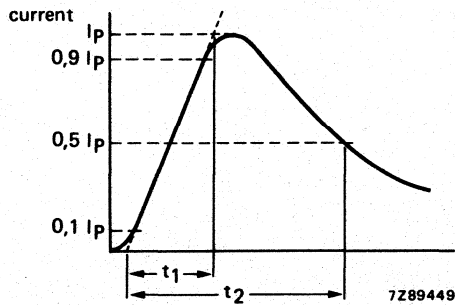

Fig. 5.
- High energy surges are generally of longer duration. The max. energy for 1 impulse 10/1000  $\mu\text{s}$  is given as a reference for long duration impulses. This impulse can be characterized by peak current  $I_p$  and impulse width  $t_2$  (virtual time to half  $I_p$  value, defined in IEC 60-2 section 6), see Fig. 5. If  $V_p$  is the clamping voltage corresponding to  $I_p$ , the energy absorbed in the VDR is determined by equation  $E = K \cdot V_p \cdot I_p \cdot t_2$ ; K depends on  $t_2$ . When  $t_1$  is 8 to 10  $\mu\text{s}$  and  $t_2 = 20 \mu\text{s}$ ,  $K = 1$ ; when  $t_2 = 50 \mu\text{s}$ ,  $K = 1,2$ ; when  $t_2 = 100 \mu\text{s}$ ,  $K = 1,3$ ; when  $t_2 = 1000 \mu\text{s}$ ,  $K = 1,4$ .